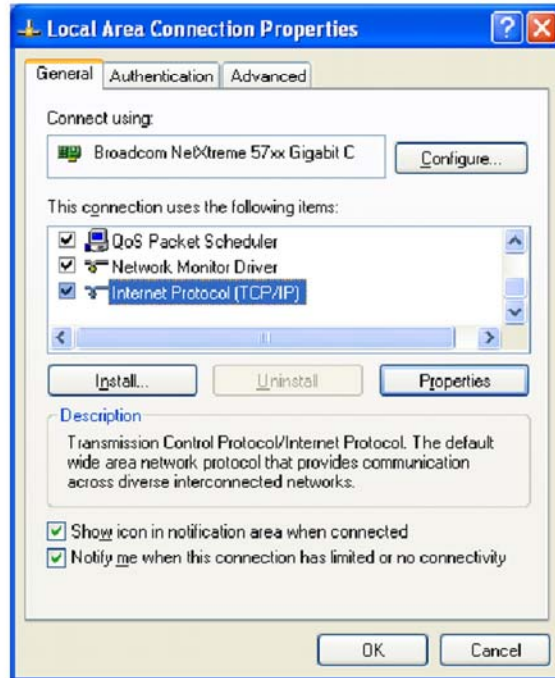

Figure 3 Properties window
3. Highlight Internet Protocol (TCP/IP). Select Properties, refer to Figure 3. The Internet Protocol (TCP/IP) Properties window will open.